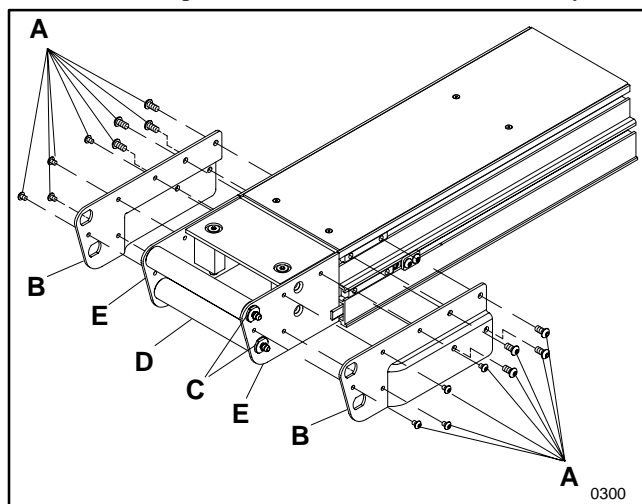

Figure 20
2. Remove the tail cover plate screws (A of Figure 20) and tail cover plates (B) on both sides of the conveyor.
2. Insert pulley (D of Figure 20) between the tail pulley plates (E).
3. Slide the retaining sleeves (C) through openings in the tail pulley plates (E) and into both sides of the pulleys (D).
4. Replace and re-secure the tail cover plates (B) by installing and securing the tail cover plate screws (A) and on both sides of the conveyor.